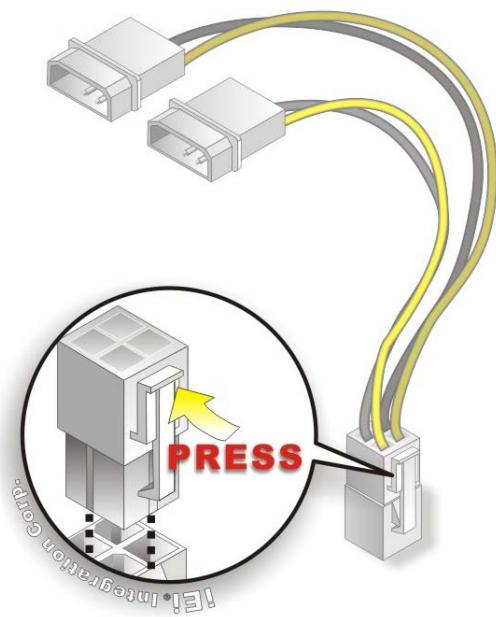

Figure 4-12: Power Cable to Motherboard Connection
**Step 2: Connect the Power Cable to the Motherboard.** Connect the 4-pin (2x2) Molex type power cable connector to the AT power connector on the motherboard. See Figure 4-12.